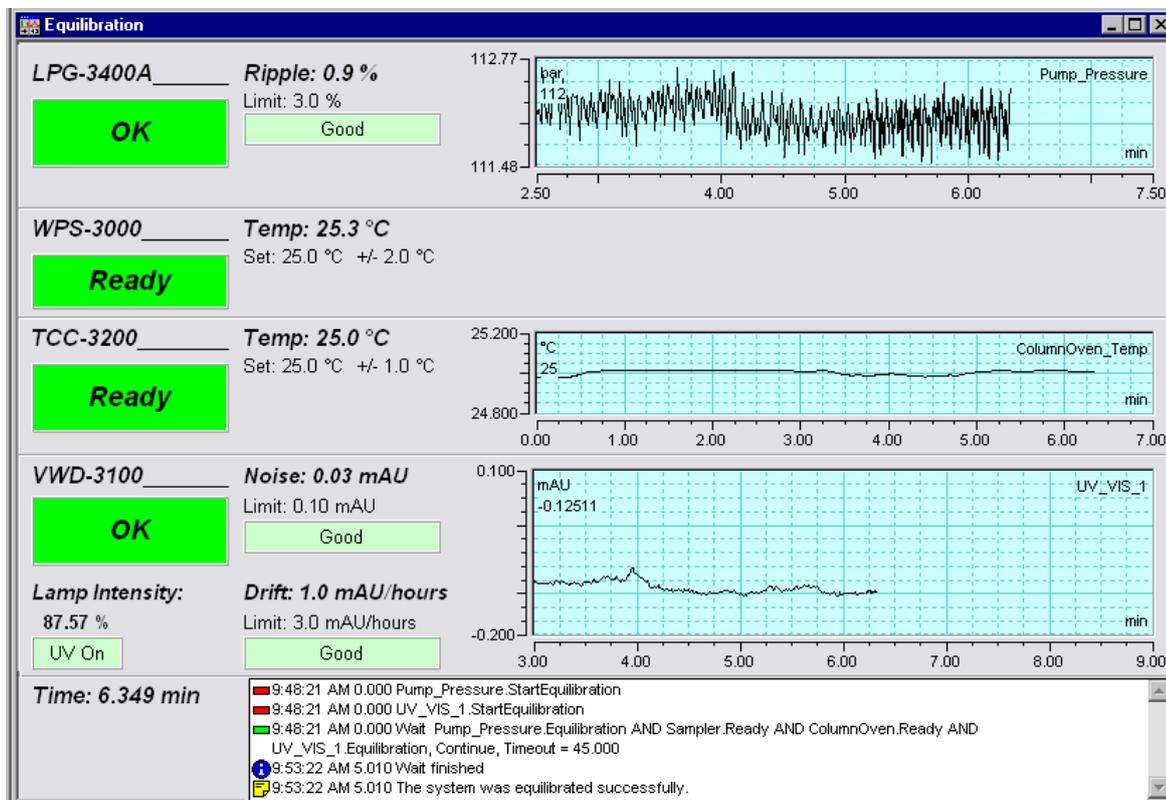

Fig. 25: Equilibration panel
- ◆ Opens the equilibration control panel for the instruments in the timebase (→ Fig. 25, page 58).